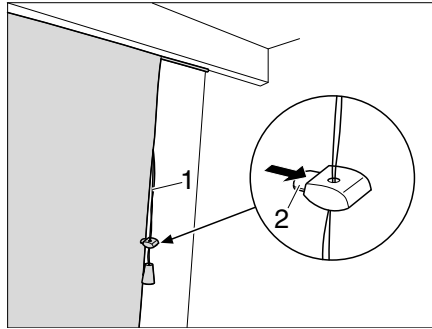

Fig. 88 Gathered blind
- Pull down the cord (Fig. 88,1). The cords pull up and gather the blind.
- Press the clamp (Fig. 88,2) on the holder and slide the holder into the required position.
- Press the clamp (Fig. 88,2) on the holder.